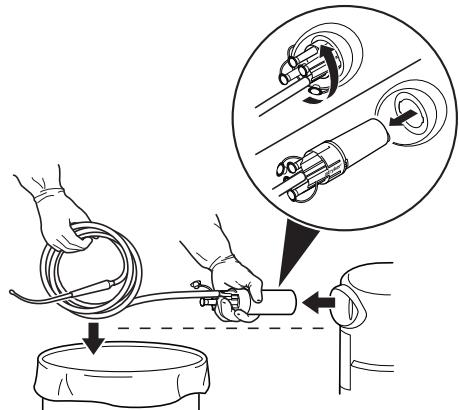

Figure 8 To Remove Manifold and Tubing
- Rotate the manifold until it is unlocked, then pull the manifold and attached suction tubing out of the receptacle, always keeping the manifold in a horizontal orientation (Figure 8).